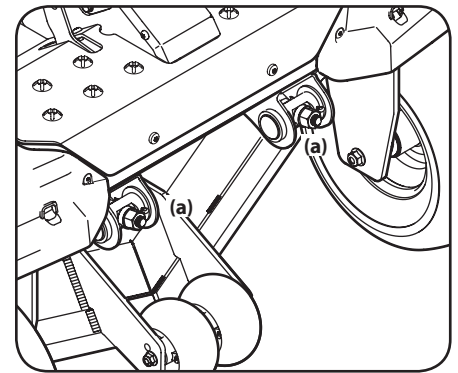

Figure 4-9
5. Using a wrench, raise the front of deck by loosening the lock nuts to the front of the pivot pin (a) and then tighten the jam nuts on the back of the pivot pin (a) to raise the front of the deck and secure in place. See Figure 4-9.
6. Using a wrench, lower the front of deck by loosening the jam nuts on the back of the pivot pin (a) and then tighten the lock nut on the front of the pivot pin (a) to lower the front of the deck and secure in place. See Figure 4-9.